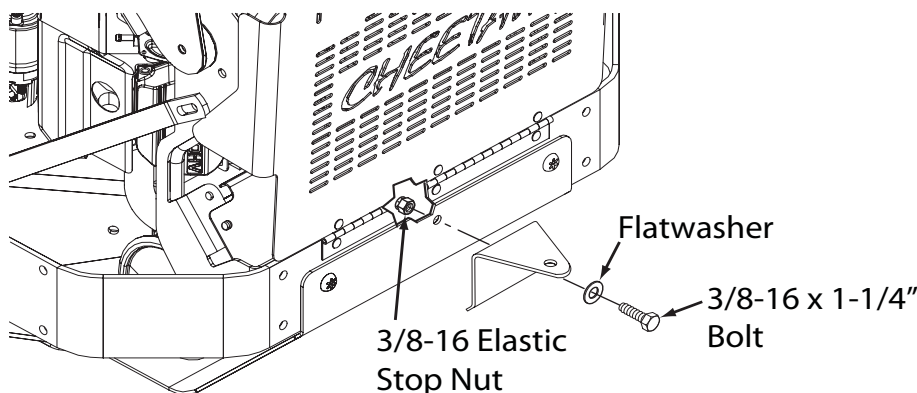

Figure 1. SCZ Hitch Mounting
2. Remove the center bolt and serrated flange nut securing the skid plate to the rear bumper. See Figure 1. Discard original hardware.
3. Install the hitch to the center bolt hole using (1) one 3/8-16 x 1-1/4" hex head bolt, (1) 3/8" flatwasher and (1) one 3/8-16 elastic stop nut. See Figure 1. Tighten hardware securely.